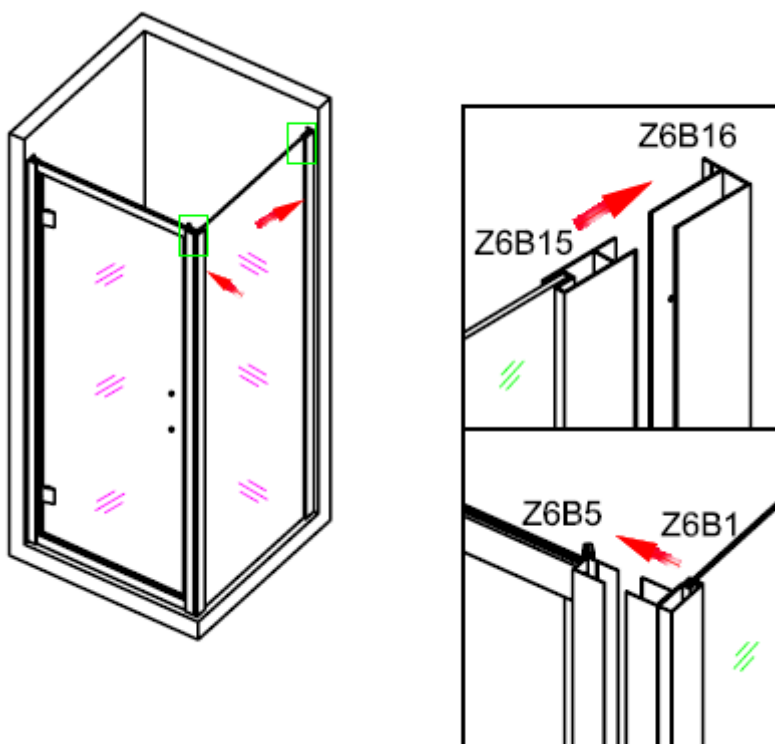

Figure 6
6. Connect the whole set side panel with the from panel,as showed in figure 6.